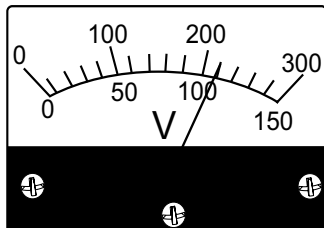

Figure 72. AC Voltmeter (120/240V)
5. Also verify that the AC voltmeter is registering a voltage reading as indicated by Figure 72.
- Verify that the AC voltmeter is registering a voltage reading as indicated by Figure 72.